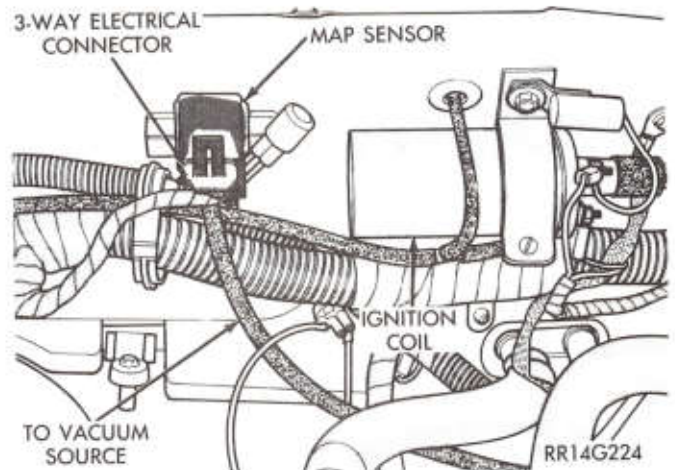

Fig. 5—Map Sensor Electrical and Vacuum Connections
(6) Verify that the 3-way connector is attached to the MAP sensor (Fig. 5).
(7) Verify M.A.P. Sensor Vacuum Hose is attached at MAP sensor. (Fig. 5).